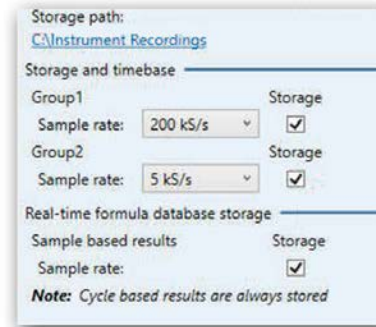

Figure 9.22: Storage and timebase
- C** Data for **Group1** is recorded at 200 kS/s and stored, for Group 2 at 5 kS/s and also stored (see Figure 9.22). In Perception V7 this was called “Circular recording”.